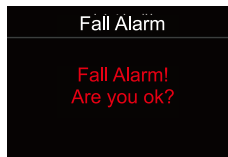

Fig 3
2. When the fall alert function is activated, the switch status icon changes to . If a fall is detected, the indicator icon  will display, a prompt box will appear (as shown in Figure 3), the buzzer will sound, and the LED indicator will remain on. To cancel the fall alert, press and hold the left and right buttons simultaneously for 2 seconds.